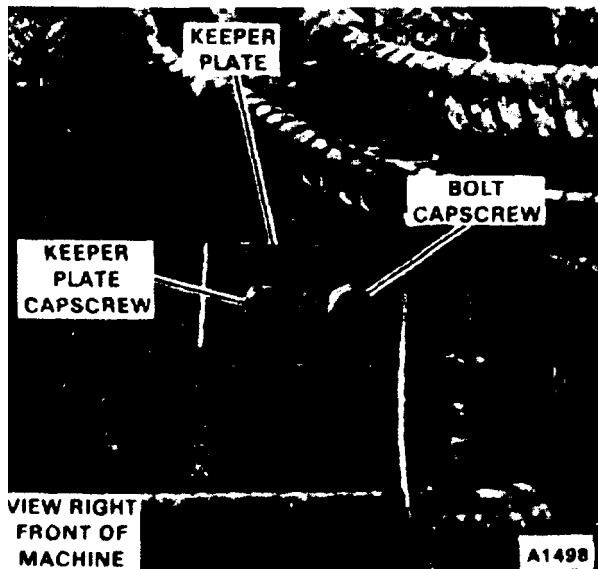

Figure 2-9. Axle Locking Bolts and Keepers
5. Remove the keeper plate capscrews with the axle locking bolts attached from the side to be extended that secure each axle to the carbody (see Figure 2-9).